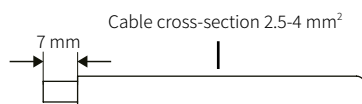

Fig. 22. Wire end stripping.
- b. Strip 7 mm of the insulation sleeve of the DC cable, as shown in Fig. 22.